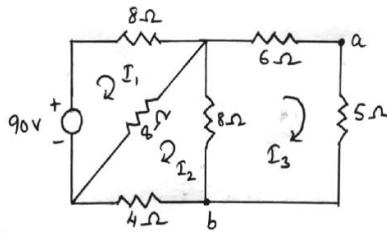

Fig.6
14. Find the currents I_1, I_2 and I_3 for the circuit shown in Fig.6. Also find potential difference